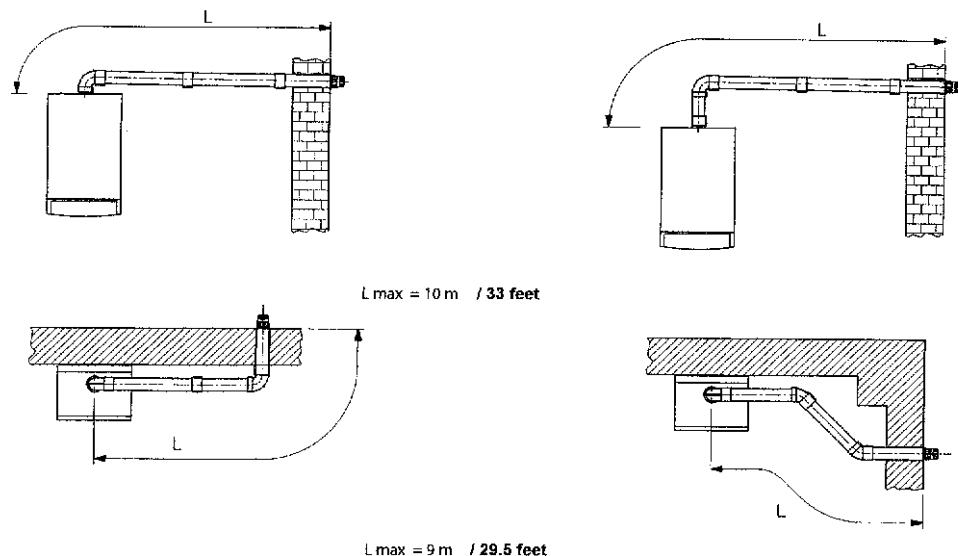

Fig. 5
6. The illustrations in figures 5 and 6 show examples of maximum equivalent vent lengths.